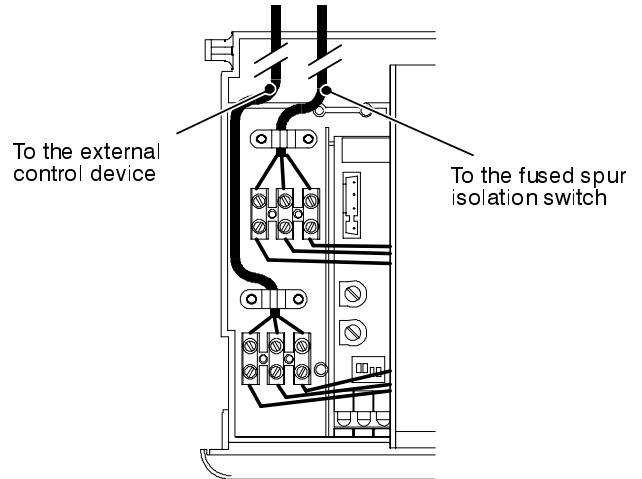

Fig. 6.17
- 9 Route the electrical supply flexible cord and the external control flexible cord as illustrated in Fig. 6.17. Lock the flexible cords in place with the flexible cord clamps